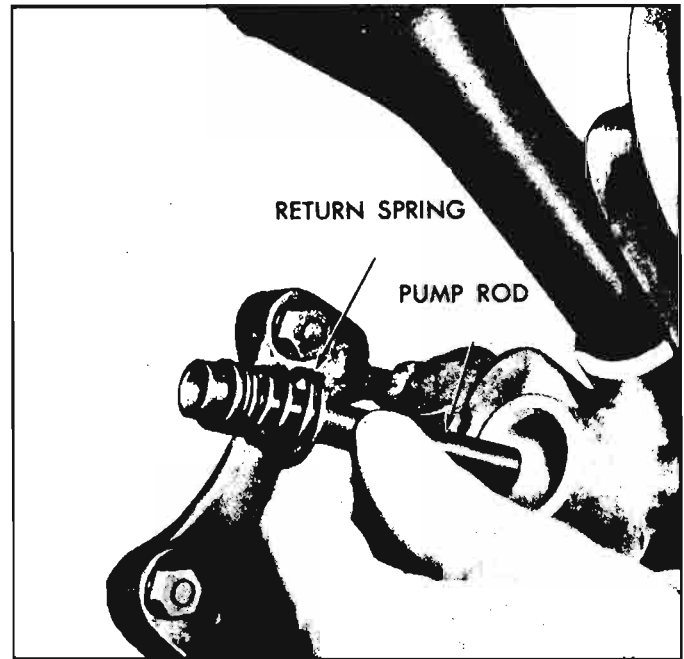

Fig. 9-35—Removing Push Rod
3. Carefully remove fuel pump, and push rod assembly (fig. 9-35) from engine.